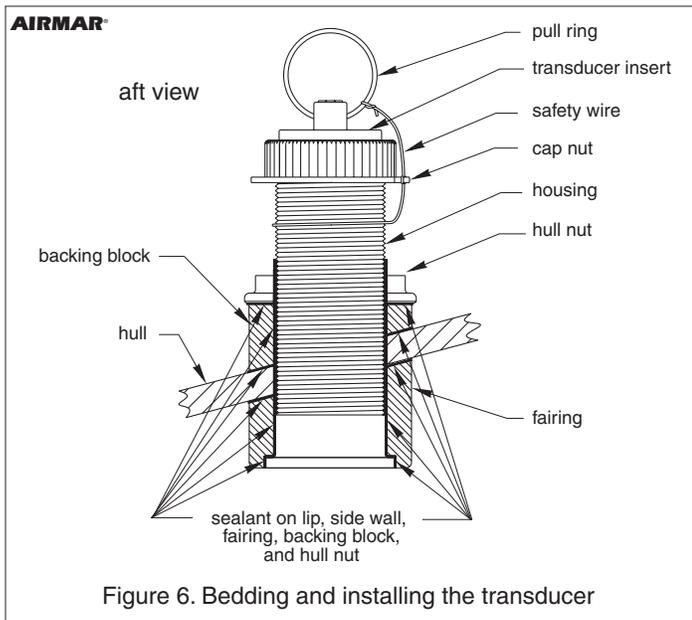

Figure 6. Bedding and installing the transducer
2. Apply a 2mm (1/16") thick layer of marine sealant around the lip of the housing that will contact the fairing and up the sidewall of the housing, 6mm (1/4") higher than the combined thickness of the fairing, hull, backing block, and the hull nut (see Figure 6). This will ensure there is sealant in the threads to seal the hull and to hold the hull nut securely in place.